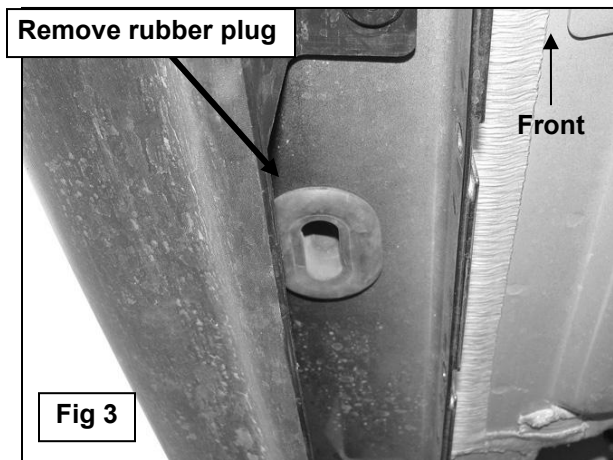

Fig 3
- Starting at the passenger side front, locate the 3 pairs of (2) small holes in the pinch weld, (**Figures 1 & 2**). Remove the rubber plug filling the oval hole in the bottom of the rocker panel directly in front of the (2) holes, (**Figure 3**). Select (1) 12mm Bolt Plate and (1) 12mm Plastic Retainer, (**Figure 4A**). Thread the Retainer part way onto the Bolt Plate. **NOTE:** The Retainer will help hold the Bolt Plate in position during Bracket installation. Insert the Bolt Plate into the hole and rotate 90-degrees to the slot, (**Figures 4B & 5**). Thread the Retainer down until it is tight against the sheet metal.